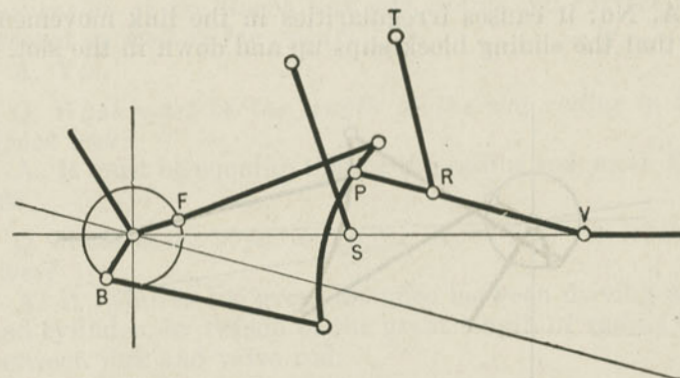

Fig. 288. Gooch Valve Gear, Open Rods.
raised and lowered, but the block is; but in this case the convexity of the link-slot curvature is toward the axle and eccentric, instead of the concavity being so turned. One such motion, known as the Gooch gear, is outlined in Fig. 288, with the links uncrossed. In *B* is the center of the backing eccentric; *F* that of the forward eccentric; *S* being the saddle and the point of suspension of the link; *P* the block attached to the radius-rod *PV*, that is
*A. It must be equal to that of the radius rod, as in Fig. 288.*